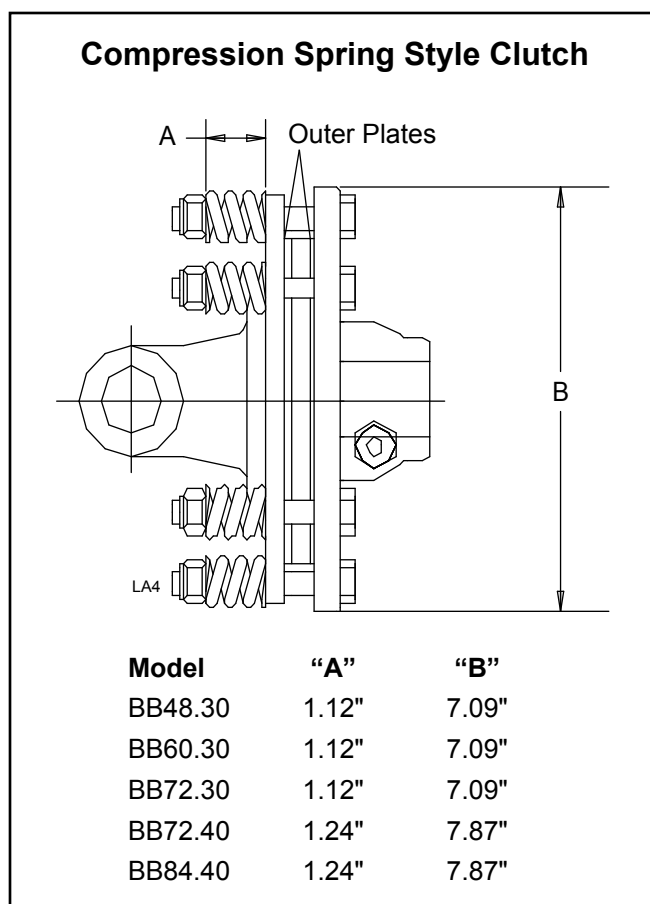

Figure 15. Slip Clutch Assembly
3. Mark outer plates of slip-disc clutch as shown in Figure 15.
9. Reassemble clutch and tighten bolts no more than 1/8 of a turn at a time until desired setting of 1.12" on BB48.30, BB60.30, and BB72.30 cutters is reached. For BB72.40, BB84.40 cutters, set to 1.24". See Figure 15.